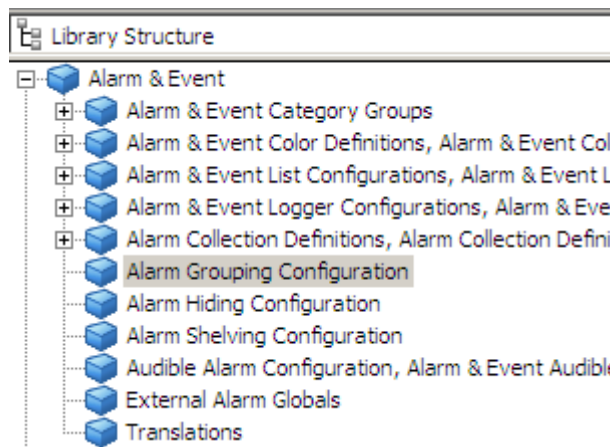

Figure 50. Alarm Grouping Configuration - Library Structure
1. Navigate to the **Library Structure > Alarm & Event > Alarm Grouping Configuration** (refer to Figure 50).